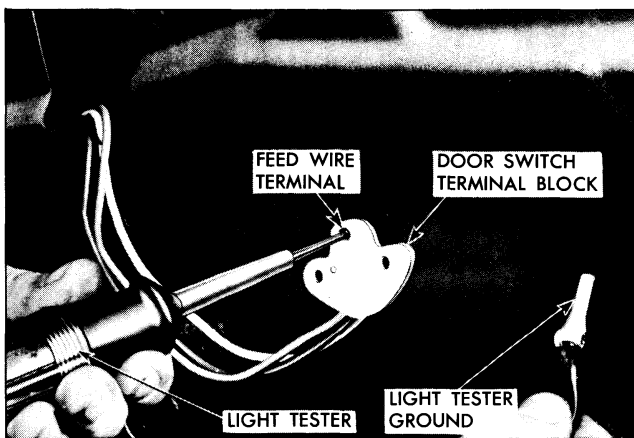

Fig. 18-7 Checking Feed Circuit
1. Connect one light test lead to feed terminal of switch block and ground other test lead to body metal (Fig. 18-7).